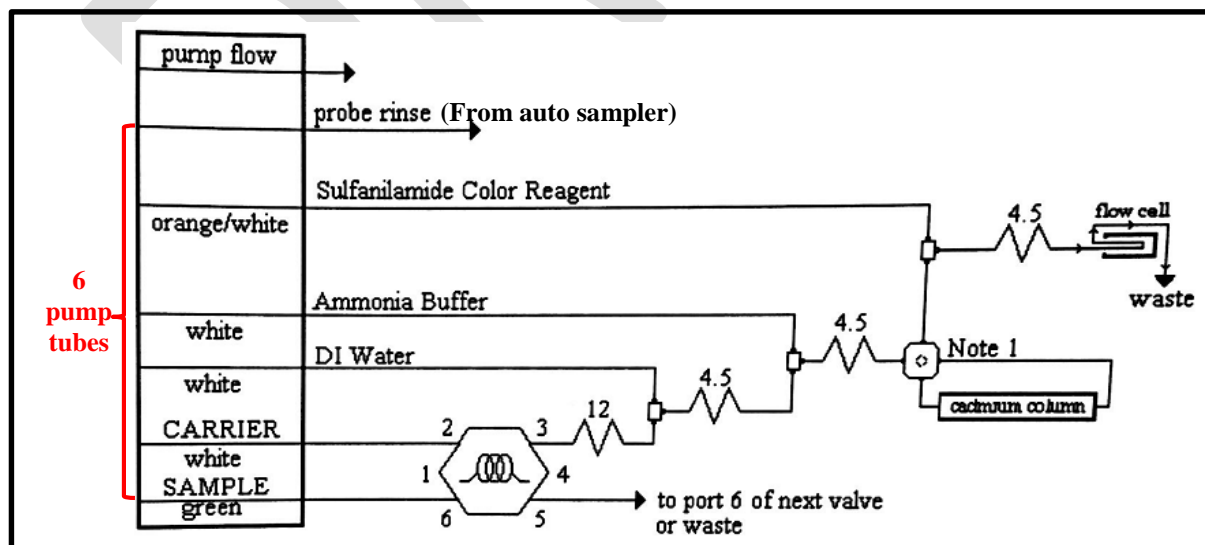

Fig.1 Manifold diagram
4.3.2 Check the connection according to the manifold diagram (fig.1). Port 3 from the diluter (fig.2) is connected to sample tube from manifold.